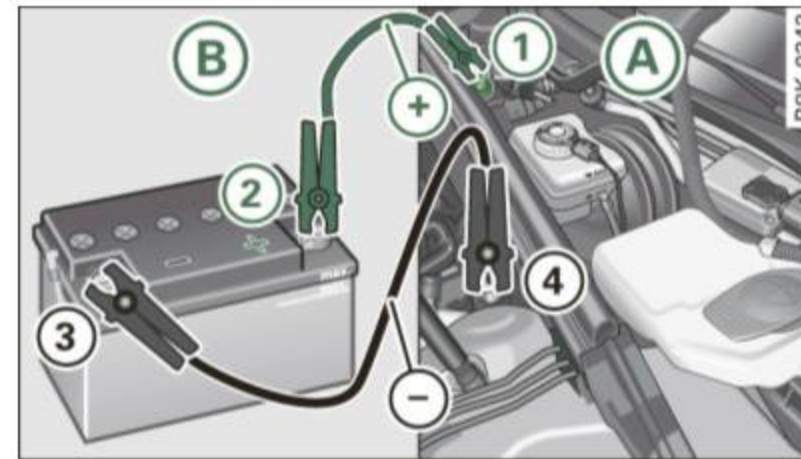

Fig. 240 Jump starting with the battery of another vehicle: (A) discharged vehicle battery, (B) booster battery
1. Connect one end of the positive cable (red) on the **jump start bolt** ⇒ *page 326*, fig. 240 ① (Bolts under red cover = “positive”) of the vehicle to be started ①A.
2. Connect the other end to the positive terminal ② of the booster battery ②B.
- Please note that the procedure for connecting a jumper cable as described above applies specifically to the case of your vehicle being jump started. When you are giving a jump start to another vehicle, do *not* connect the negative (-) cable to the negative (-) terminal on the discharged battery ④ ⇒ *page 326*, fig. 240. Instead, securely connect the negative (-) cable to either a solid metal component that is firmly bolted to the engine block or to the engine block itself. If the ►